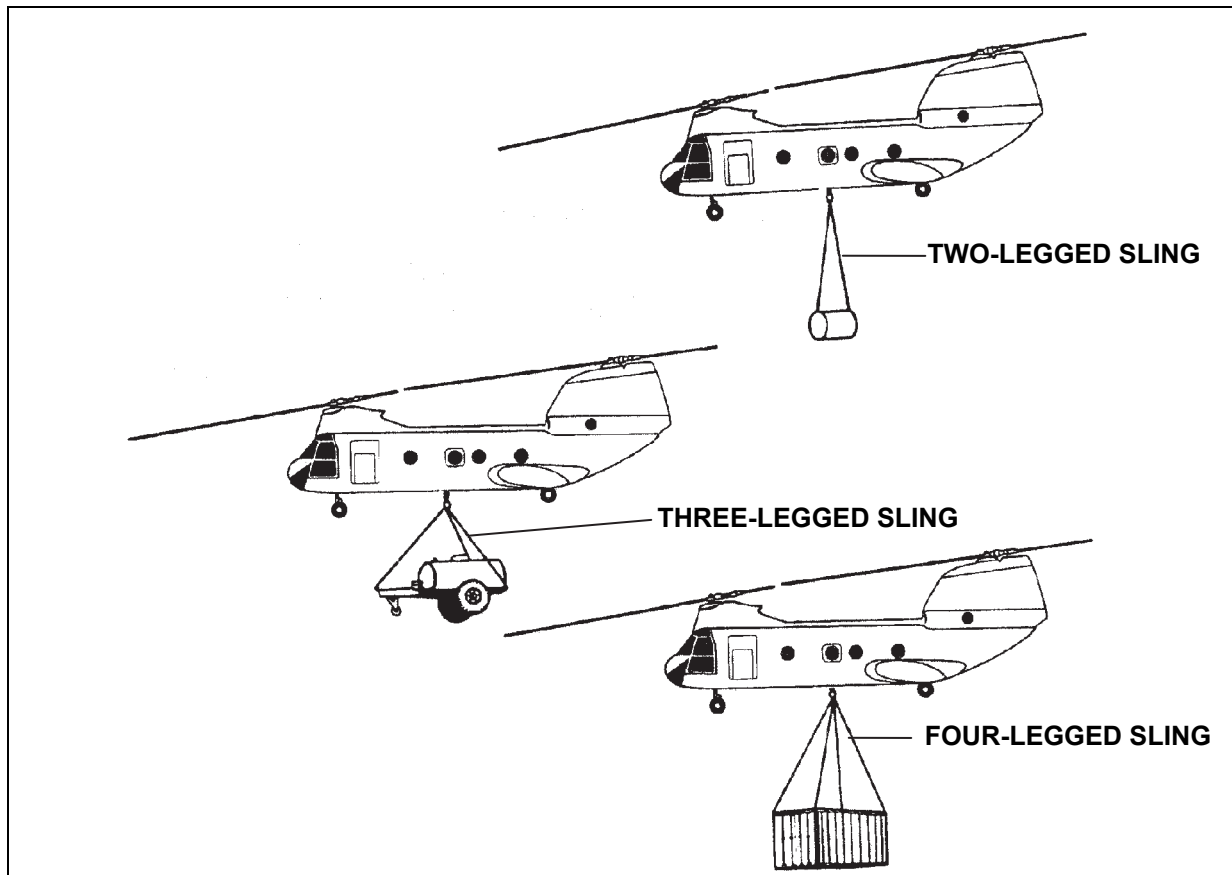

Figure 6-26. Slings with Two, Three, and Four Legs
- **Making the Sling Set Fit the Load.** A complete nylon and chain sling consists of four legs. However, legs may be removed to make a two- or three-legged sling (figure 6-26). The safe working capacity of a two-, three-, and four-legged sling set is 11,120, 15,000 and 15,000 pounds respectively. The capacity of the multileg sling set is different from other sling sets because of the sling leg design. The six steps for adding or subtracting a sling leg are as follows: